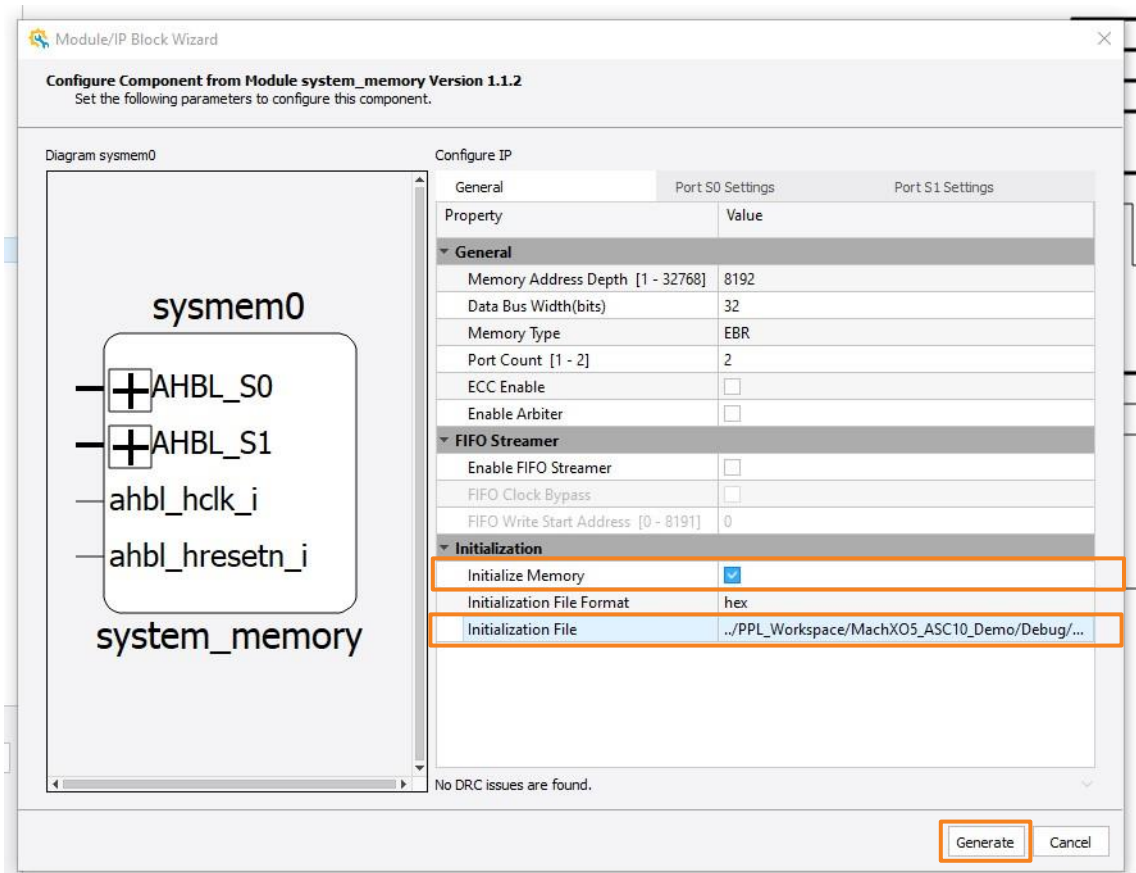

Figure 3.55. Propel Builder – System Memory Initialization
1. Double-click on the **system0_inst** to open the memory IP configuration dialog, shown in Figure 3.55.